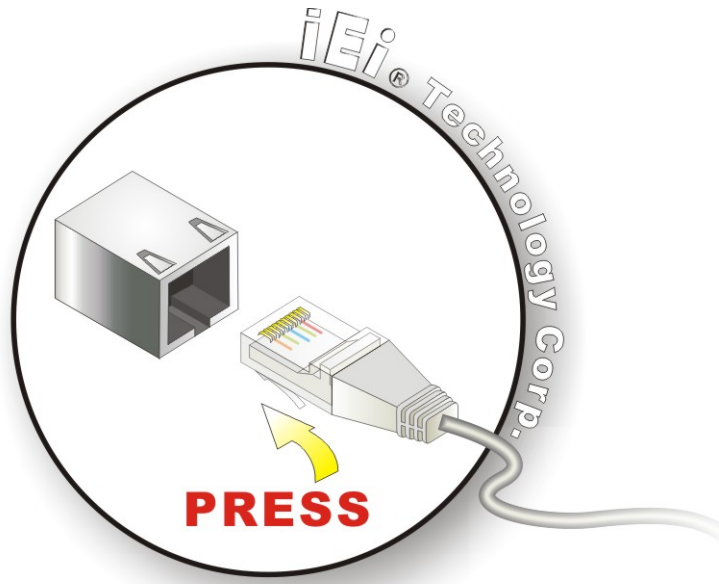

Figure 3-19: LAN Connection
Step 2: Align the connectors. Align the RJ-45 connector on the LAN cable with one of the RJ-45 connectors on the TANK-800. See **Figure 3-19**.